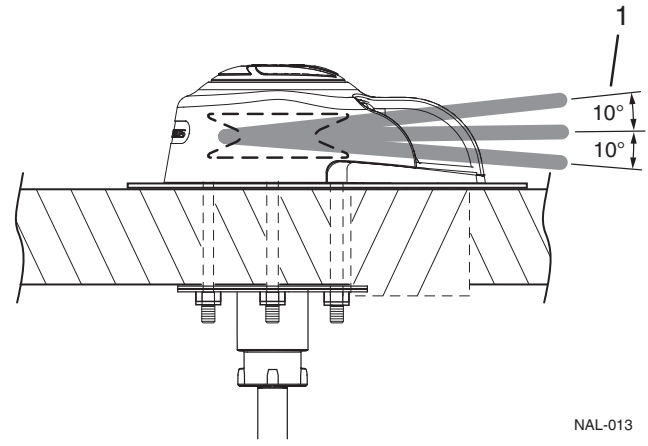

Figure 4-4
- ◆ For level alignment or up to 10° angle (**Figure 4-4, 1**) of the chain/rope rode from the gypsy across the deck to the anchor roller